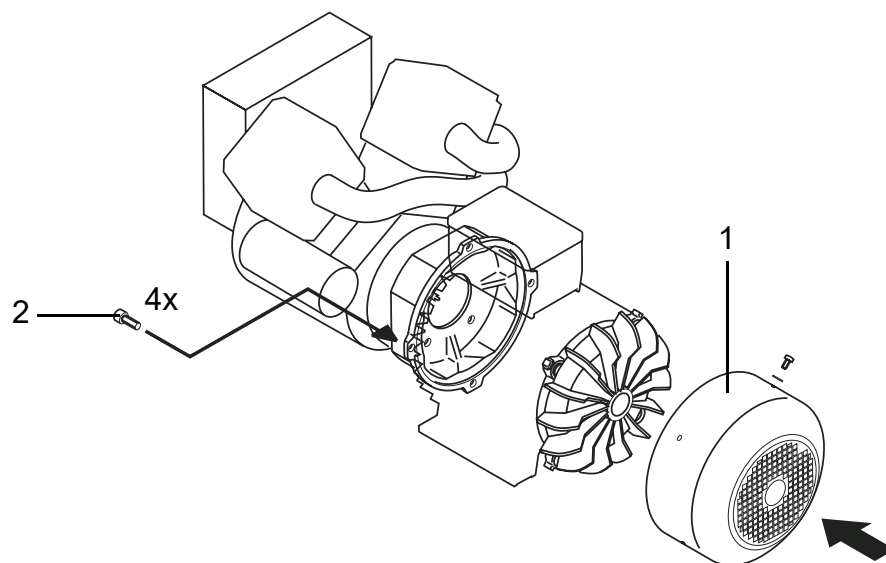

Fig. 12 Assembly of brushless single-bearing generators on the motor (2)
- ⇒ Fig. 12, Assembly of brushless single-bearing generators on the motor (2), page 47
- > Secure the bearing plate to the generator with the four mounting screws [2] (Figure 12).
- > Attach the fan wheel cover [1] (Figure 12).